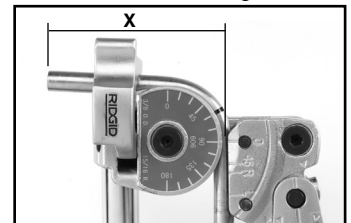
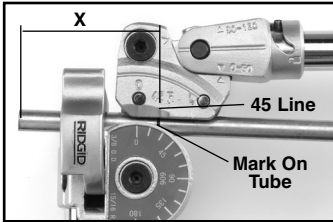

Figure 7 – After
Figure 10 – Before
- With the mark on the tube appropriately aligned, move the Carriage so that the “0” Line aligns with the 90 degree line on the Form. (See Figures 7 and 9 – After).
- Mark the tube at the desired distance (X) from the feature (end of tube, bend, etc.). The center of the arc segment will be this distance from the feature.
- Align the mark on the tube with the 45° line on the Carriage (see Figure 10).